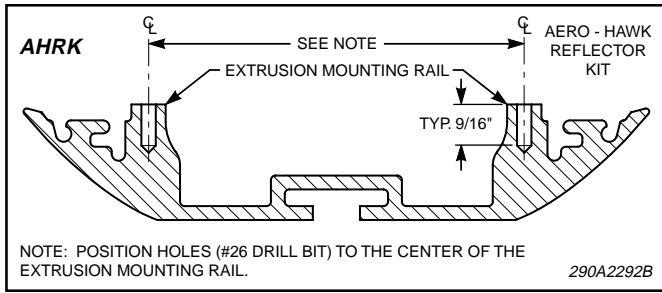

Figure 2.
5. Using the rotator assembly as a template, scribe three drill position marks on the extrusion mounting rail as shown in figure 2.
6. Using a #26 drill bit, drill 9/16" deep holes at the previously scribed drill position marks as shown in figure 2.